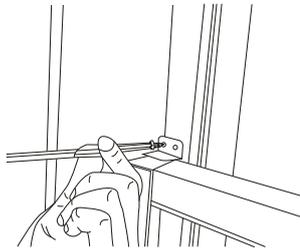

Fig.9
C. To secure lower sash in place, attach right angle sash lock with 3/4 or 1/2" (19 or 12.7 mm) screw as shown (Fig.9).